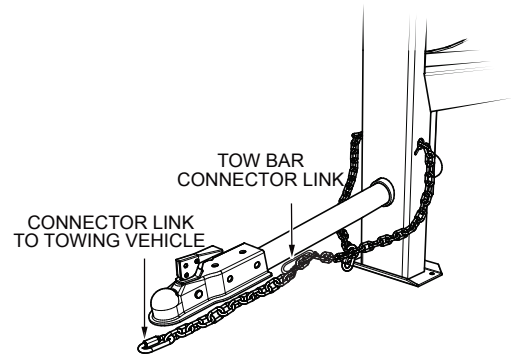

Figure 10. Extending Safety Chain
5. Extend the safety chain along the length of the tow bar (Figure 10), looping it through the tow bar's connector link. Remove any excess chain slack.
6. Connect the free end of (connector link) the safety chain to the towing vehicle (Figure 10). Remember it is critical that the length of the chain be properly adjusted, to prevent the draw bar and the front of the mixer stand from dropping to the the ground (contact) in the event the draw bar becomes disconnected from the towing vehicle.